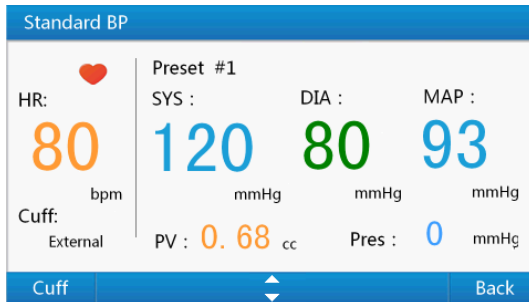

Figure 16 Standard BP simulation interface
- 1) Select "**Standard BP**" in "**BP Simulation Menu**" or use number key "**4**" to the standard BP simulation interface shown as Figure 16.